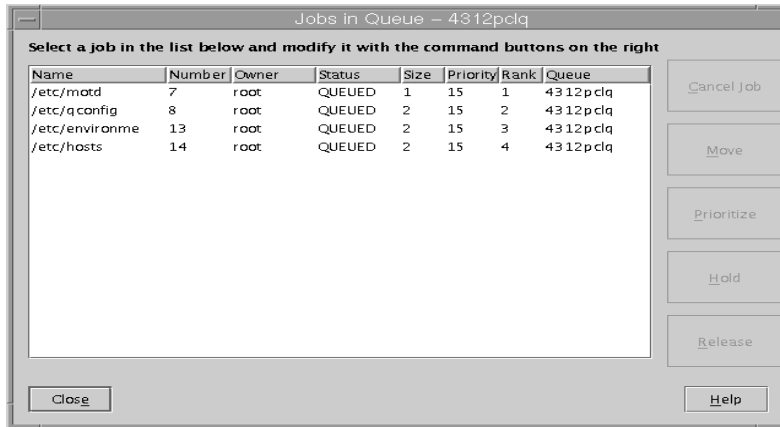
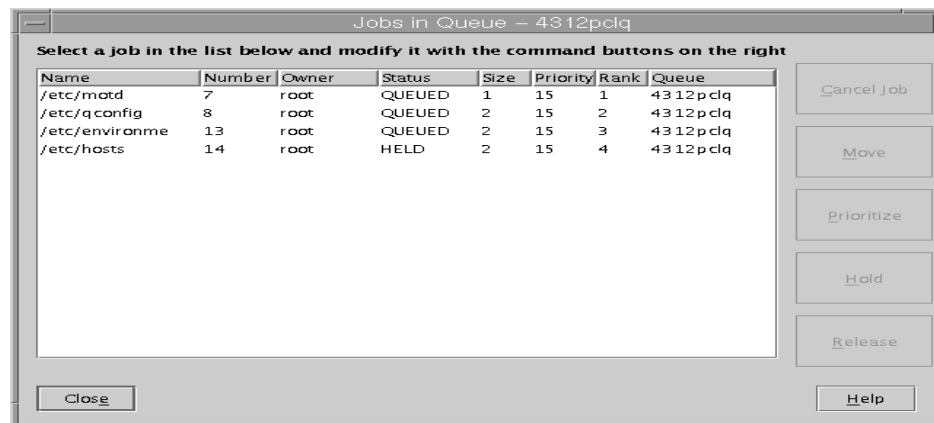

Figure 53. Before changing print job priority
Figure 56. Holding a print job
To change print job priority using Web-based System Manager, select the print job whose priority you want to change. Notice that, in Figure 53 on page 257, each job has the same priority (15); however, the rank that they are to be printed in is displayed as 1 through 4.
Select a print job that you want to hold and select the **Hold** menu, shown in Figure 53 on page 257. In this example, we have held job number 14, as shown in Figure 56.